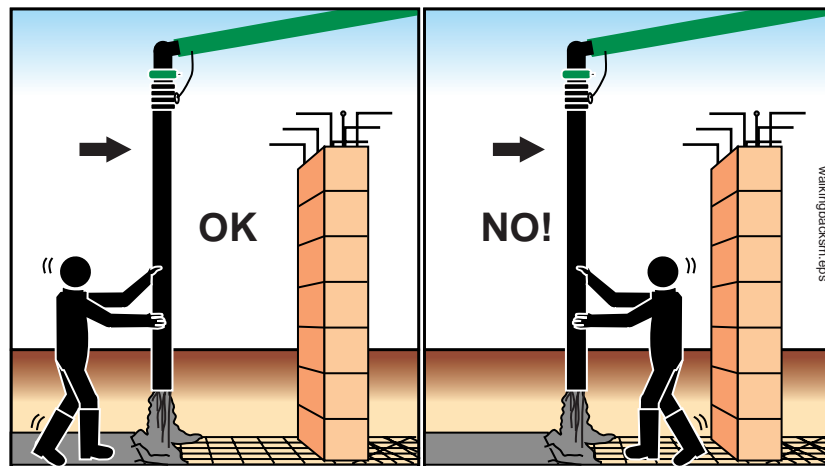

Figure 19
2.13 **⚠️WARNING!** The hose man should not walk backwards (Figure 19). Walking forward will allow him to see obstacles and avoid tripping.
2.14 **⚠️WARNING!** The hose man should never position himself between the boom or boom hose and any fixed object like a wall or column (Figure 19).